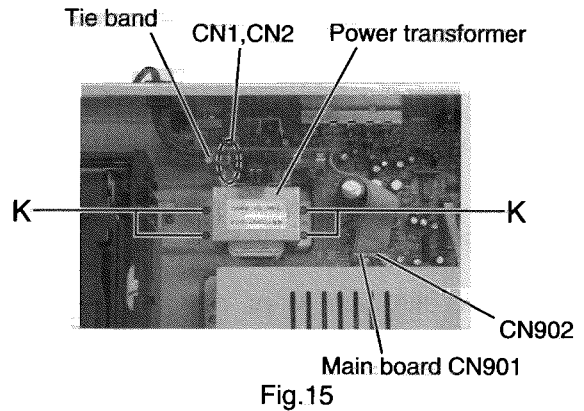

Fig.15
■ Removing the power transformer (See Fig.15)